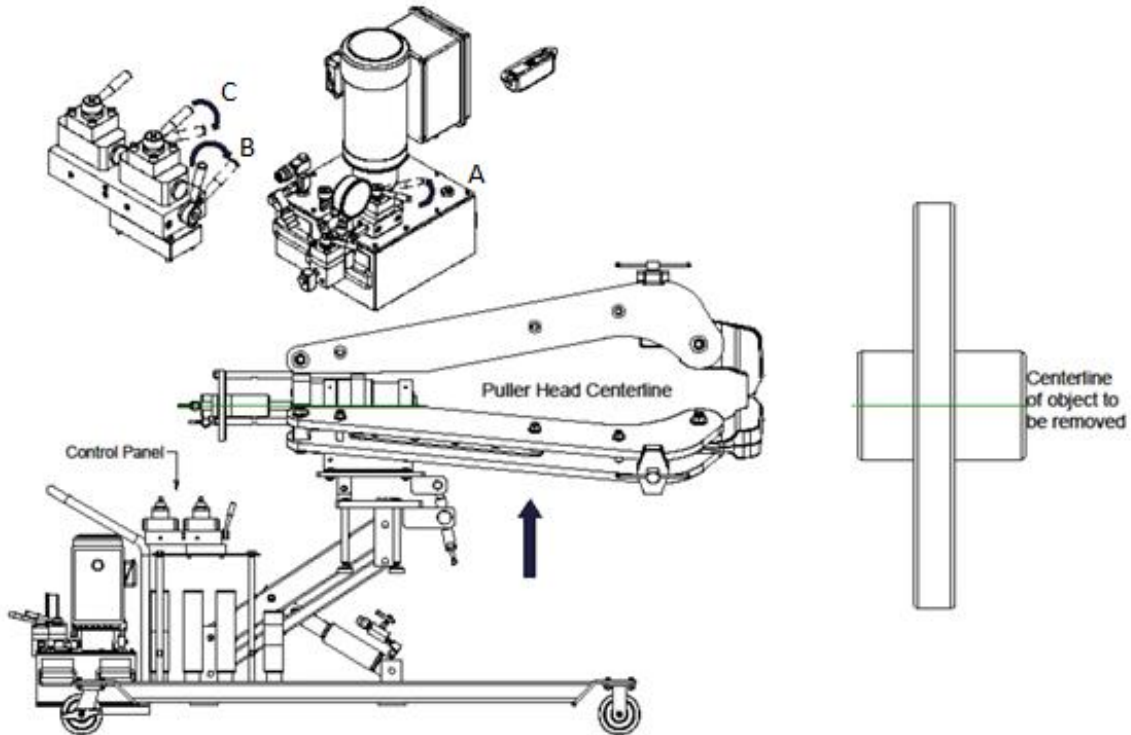

Figure 1 – Puller Alignment
- 5.2.1 Use the control panel valve handles to adjust the trolley's vertical alignment (see Figure 1). Note the position of the directional control valves on both the power unit and the control panel (A, B, C).